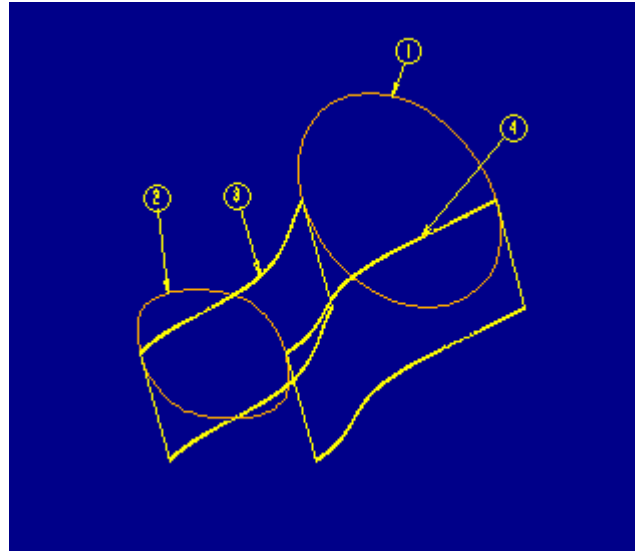
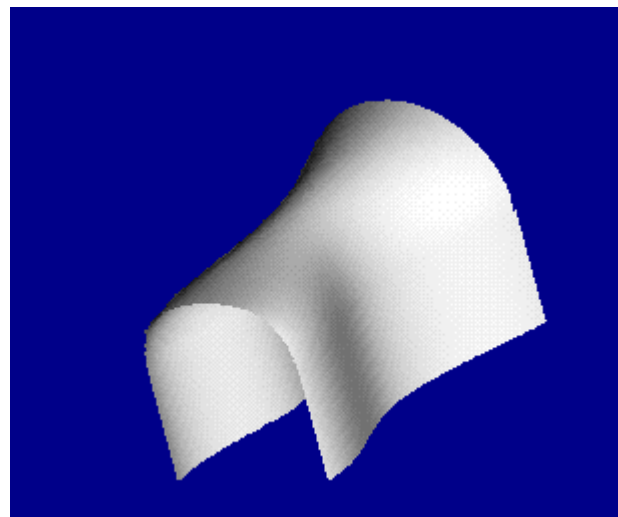

Figure 3
Figure 4
4. The first boundary blend can be created using the two planar curves for one direction (3 and 4 from Figure 3) and the split circular curve (1 from Figure 4) and the composite elliptical curve (2 from Figure 3) for the other direction. Select **Feature, Create, Surface, New, Advanced, Done, Boundaries, Done, Blended Surf, Done**. Optional tangency will be defined from the dialog box after the curves are defined.
From the **First Dir** menu select curves 1 and 2 from Figure 3, then highlight **Second Dir**. Select curves 3 and 4 for the second direction and **Done Curves**.
surface, select **Ref Type** from the Boundary 31 dialog box and **Select** from the SELECT REFS menu. Then select the surface corresponding to the highlighted reference. This must be completed for each side (curves 3 & 4) in Figure 3.
5. A surface feature is created that is formed through the respective boundaries, covering the area defined by those boundaries, and tangent to the extruded surfaces created in Step 3 (Figure 4).